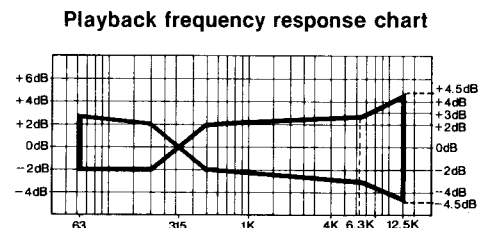

Fig. 9
5. Make sure that the measured values are within the range specified in the frequency response chart. (Shown fig. 9.)